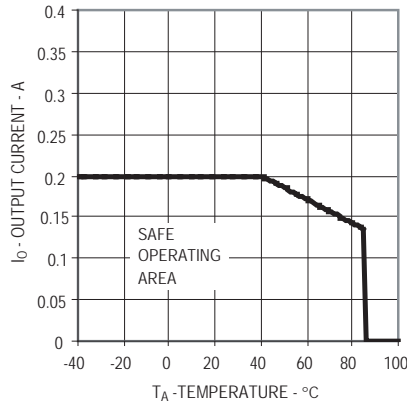

Figure 1. Maximum Average Output Current Rating vs Ambient Temperature
- For derating, refer to Figure 1 and 2.
Derating curves are shown in Figures 1 and 2, specifying the maximum output current allowable for a given am-